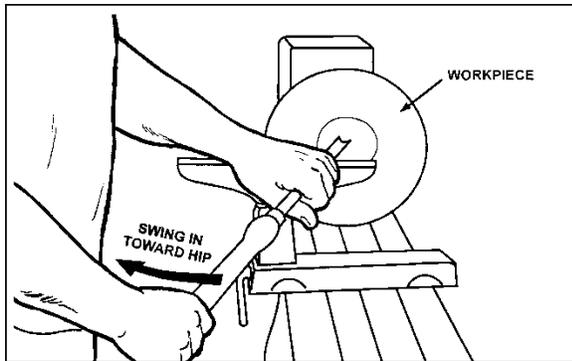

Figure 27
5. Place 1/2" bowl gouge on tool support at center of the workpiece with the flute facing top of bowl. The tool handle should be level and pointed toward the four o'clock position, as shown in Figure 27.
6. Use the left hand to control cutting edge of gouge, while right hand swings tool handle around toward your body (Figure 27). The flute should start out facing top of workpiece and rotate upward as it moves deeper into the bowl to maintain a clean even curve. As the tool goes deeper into the bowl, progressively work out toward the rim. It may be necessary to turn the tool support into the piece as you get deeper into the bowl.